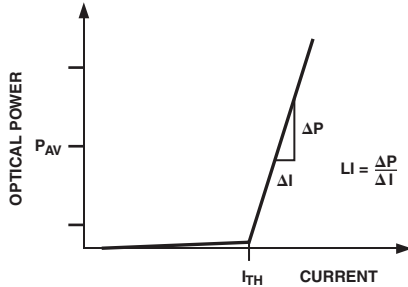

Figure 1. Laser Transfer Function
Laser diodes have current-in to light-out transfer functions as shown in Figure 1. Two key characteristics of this transfer function are the threshold current, I_{TH} , and slope in the linear region beyond the threshold current, referred to as slope efficiency (LI).